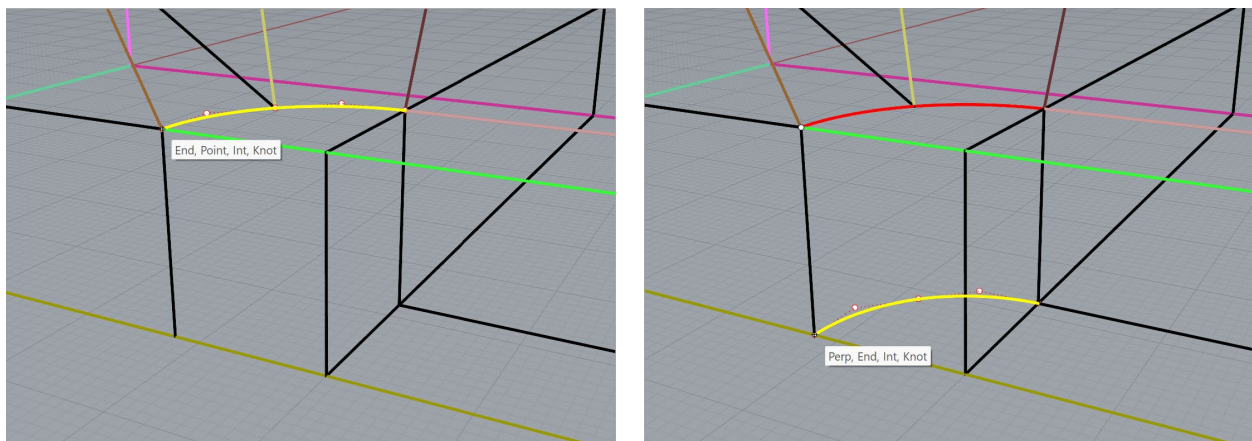

Figure 39: Copying the arcs.
11. While holding down the shift key, click the bottom two arcs to select them both. Run the **_Copy** command with *Vertical=Yes* and select the left corner for *Point to copy from* as shown in Figure 39. Drag the corner down until it hits the bottom line and the mouse tooltip is as in Figure 39. Click Enter again when done.